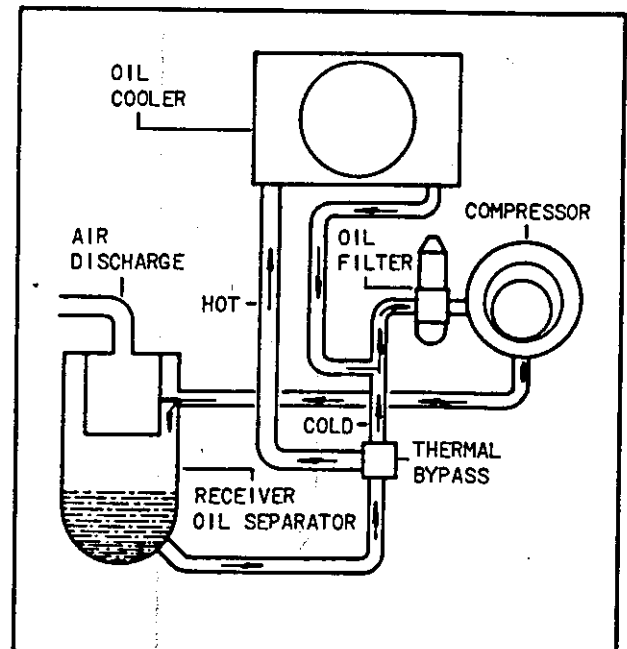

Figure 1-2. Oil cycle schematic diagram
**b. OIL CYCLE.** (See figure 1-2.) After oil is separated from the compressed air, it accumulates